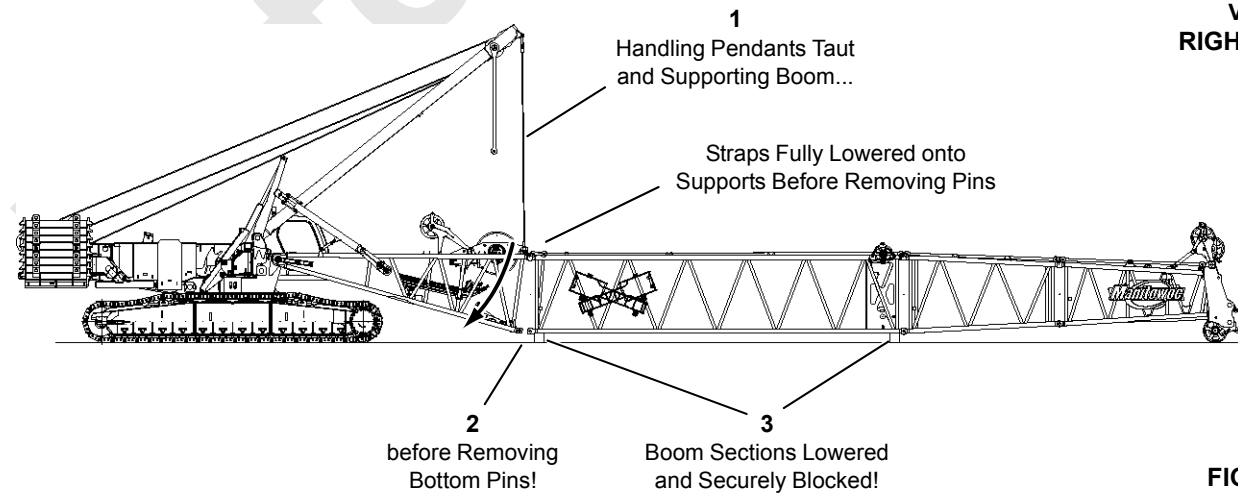

FIGURE 2-4
- Do not remove bottom connecting pins from any boom section when boom is supported by straps as shown in Figure 2-4, View A.
- Do not remove strap connecting pins until straps are fully lowered into supports as shown in Figure 2-4, View C.
- Do not remove bottom connecting pins from any boom section when boom point is resting on ground and handling pendants are slack as shown in Figure 2-4, View B.
- Never work or stand inside boom unless it is lowered and securely blocked as shown in Figure 2-4, View C.